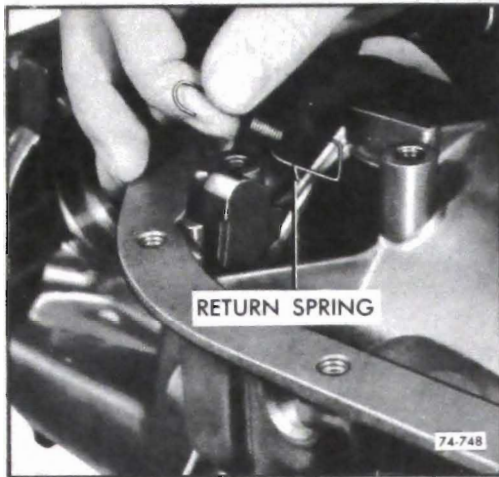

Figure 76-749
4. Install the parking pawl return spring, square end hooked on pawl. See Figure 76-749.